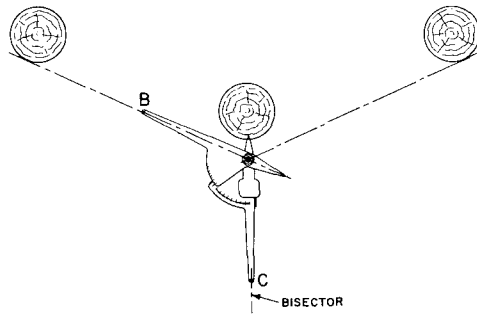

Fig. 5—Bisecting Corner Pull With C Pull Finder
- (b) Without disturbing arm B, swing arm C away from the pole until the bisector index (located just beyond the 40-foot mark on the pull scale) points to the pull reading [obtained in (a) above as read on the corner bisector scale on arm B (Fig. 5).